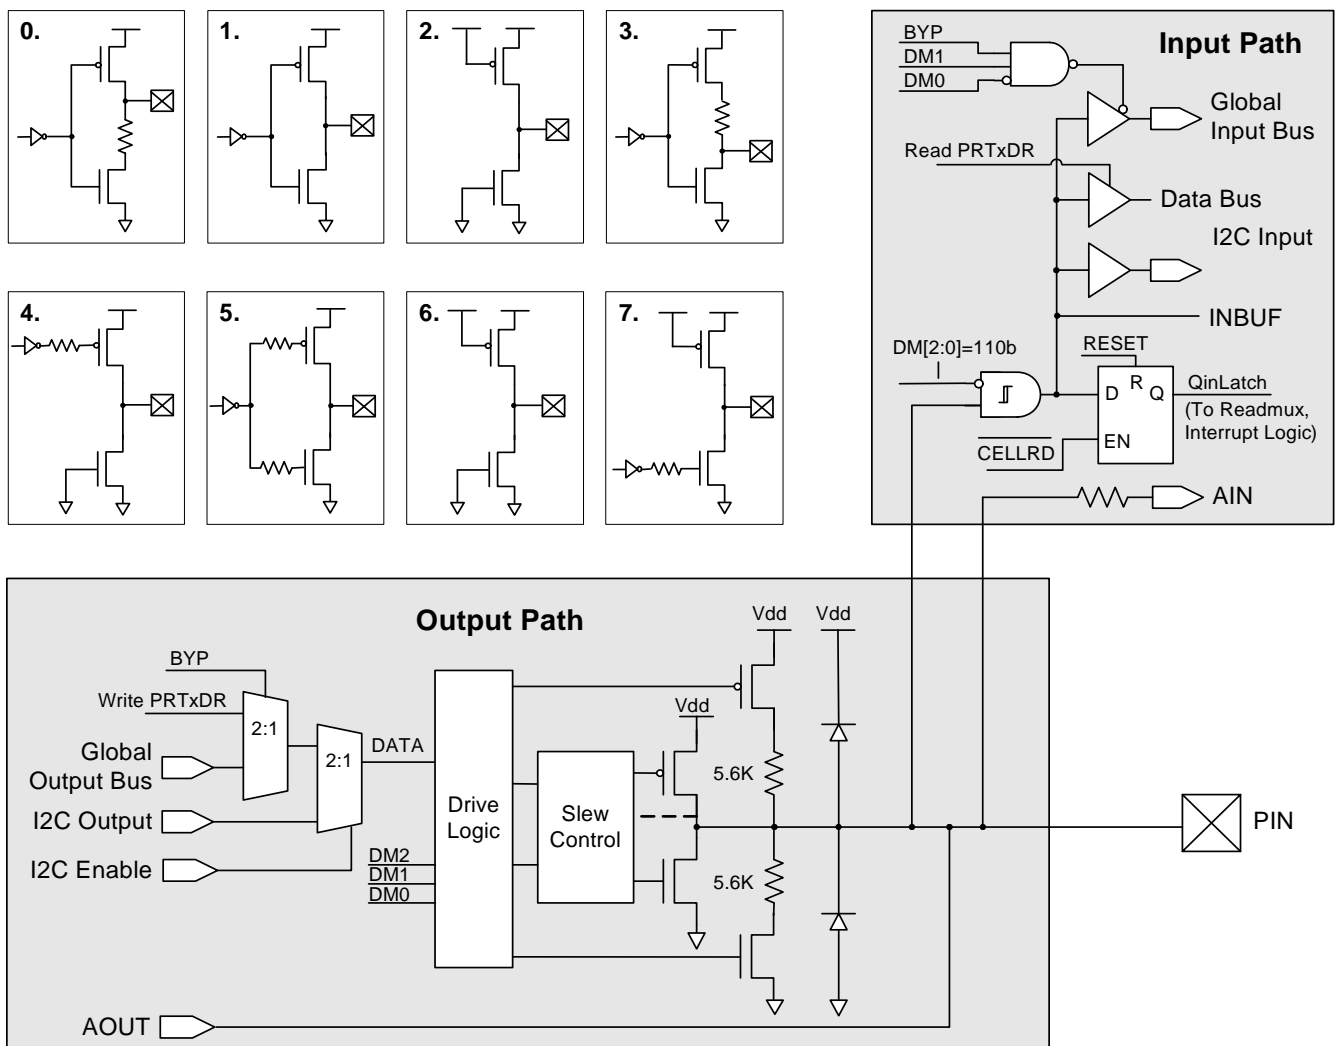

Figure 6-1. GPIO Block Diagram
The main block diagram for the GPIO block is shown in Figure 6-1. Note that some pins do not have all of the functionality shown, depending on internal connections.
One of the basic operations of the GPIO ports is to allow the M8C to send information out of the PSoC device and get information into the M8C from outside the PSoC device. This is accomplished by way of the port data register (PRTxDR). Writes from the M8C to the PRTxDR register store the data state, one bit per GPIO. In the standard non-bypass mode, the pin drivers drive the pin in response to this data bit, with a drive strength determined by the Drive mode setting (see Figure 6-1). The actual voltage on the pin depends on the Drive mode and the external *load*.
The global IO feature of each GPIO (port pin) is off by default. To access the feature, two parameters must be changed. To configure a GPIO as a global input, the port global select bit must be set for the desired GPIO using the PRTxGS register. This sets  $BYP = 1$  in Figure 6-1 and disconnects the output of the PRTxDR register from the pin. Also, the Drive mode for the GPIO must be set to the digital High Z state. (Refer to the “PRTxDMx Registers” on page 105 for more information.) To configure a GPIO as a global output, the port global select bit must again be set. But in this case, the drive state must be set to any of the non-High Z states.
**Bits 7 to 0: Global Select[7:0].** Writing this register high enables the global bypass (BYP = 1 in Figure 6-1). If the Drive mode is set to digital High Z (DM[2:0] = 010b), then